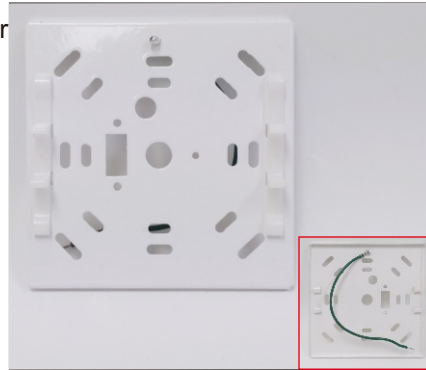

Figure 1
1. Start by removing the original lamp, lampholder and ballast (only for Fluorescent) from the luminaire. See figure 1.